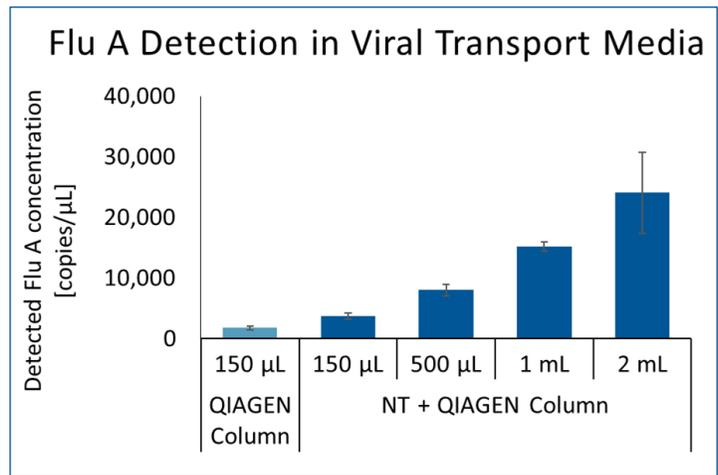

Figure 3. You can reduce your false negatives by increasing your starting sample volume by 14—fold.
Let the Nanotrap® technology concentrate virus from larger volumes without disrupting your assay's sample input volume requirement. An array of sample input volumes for flu A concentrations across 4 Nanotrap® particle (NT) processed sample volumes are shown in comparison with the 150 µL QIAGEN column input volume (Figure 3).